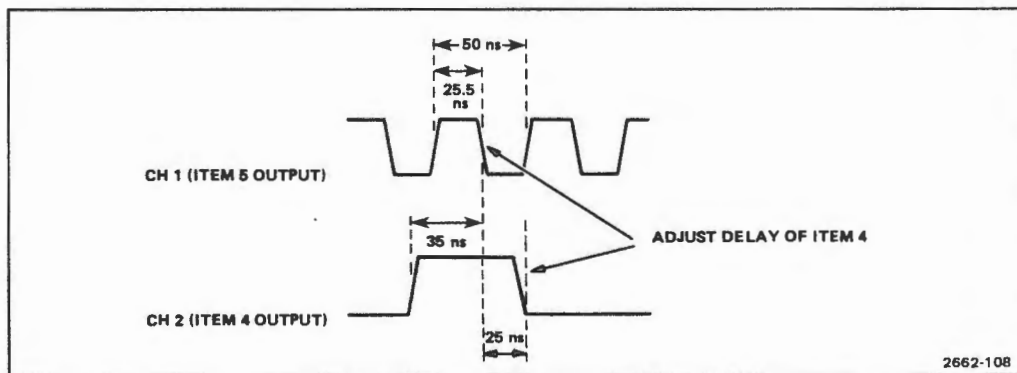

Figure 4-9B. Adjusting pulse generators outputs for checking Clock Qualifier Operation.
ADD: Figure 4-9B. Adjusting pulse generators outputs for checking clock qualifier operation.
i. Set test equipment as in part f, except refer to Figure 4-9B
Page 4-18 Change existing Figure 4-9 number to read 4-9A and add the following Figure 4-9B.